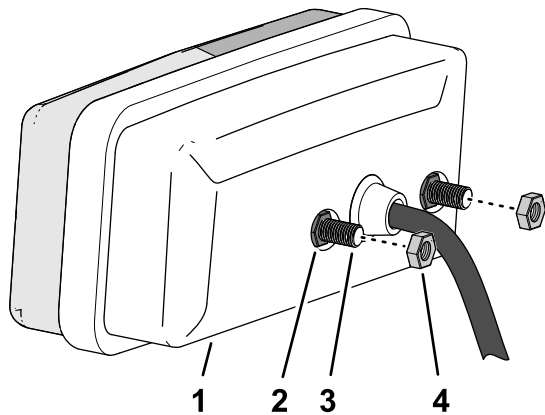

Figure 57
1. Remove the 2 nuts (5 mm) from each of the rear taillights (Figure 57).